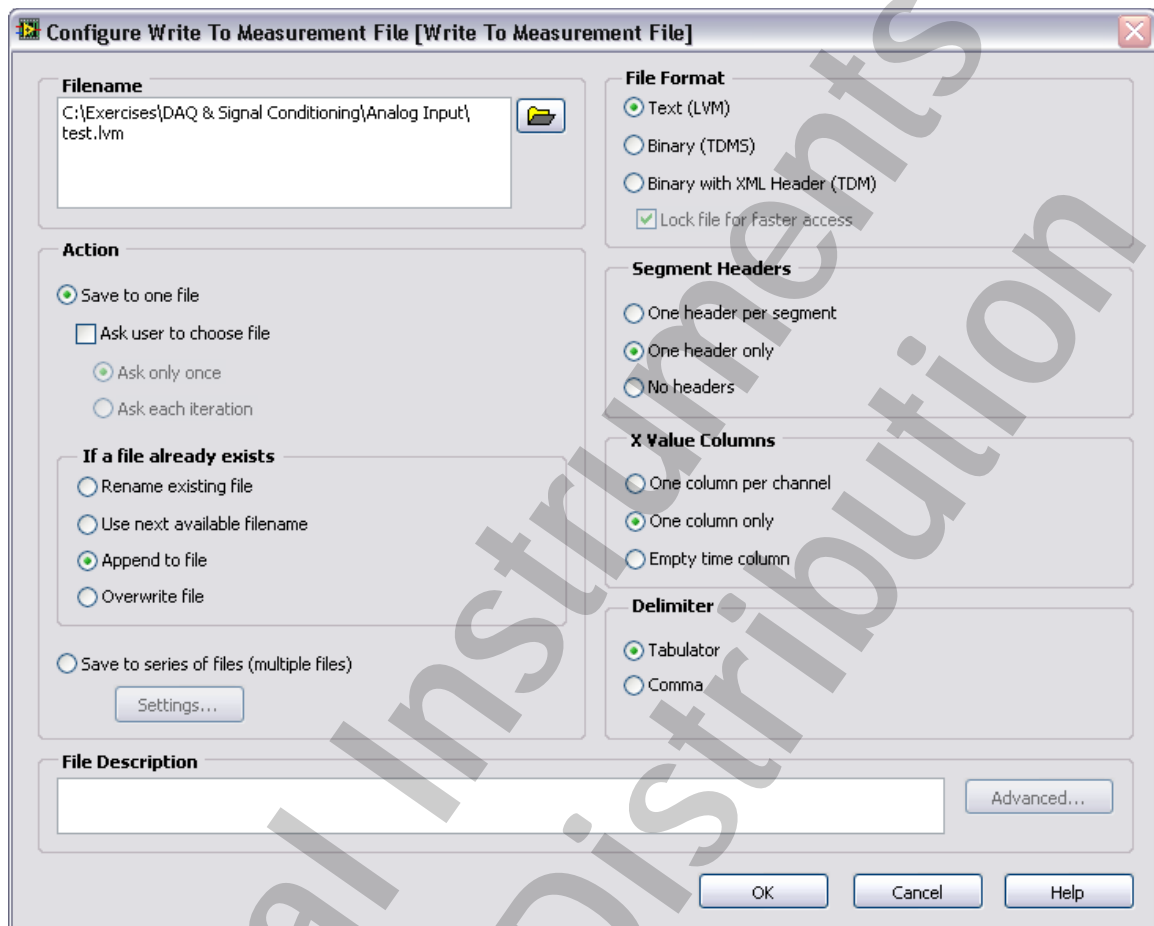

Figure 3-13. Configure Write To Measurement File Dialog
- ☐ In the Configure Write To Measurement File dialog box, select the settings shown in Figure 3-13.